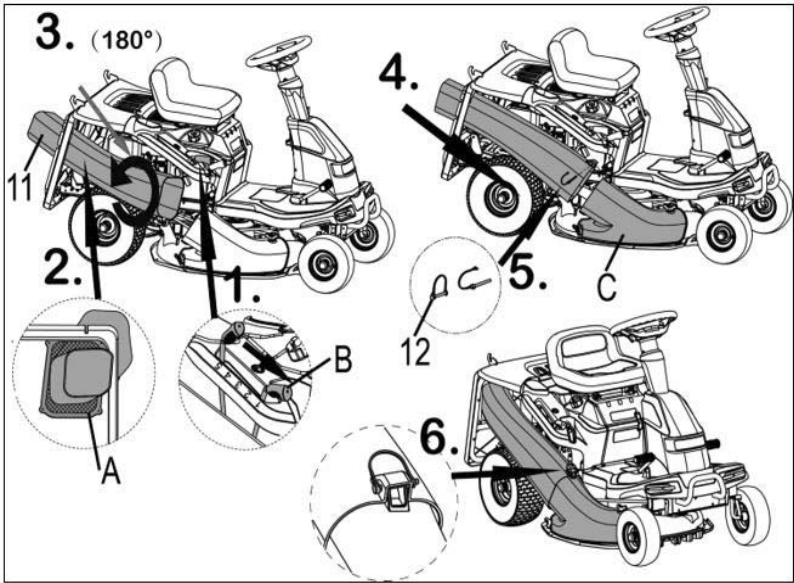

Figure 13
1. Install the grass discharge pipe to the designated position of the ride on mower according to the method shown in Figure 13.